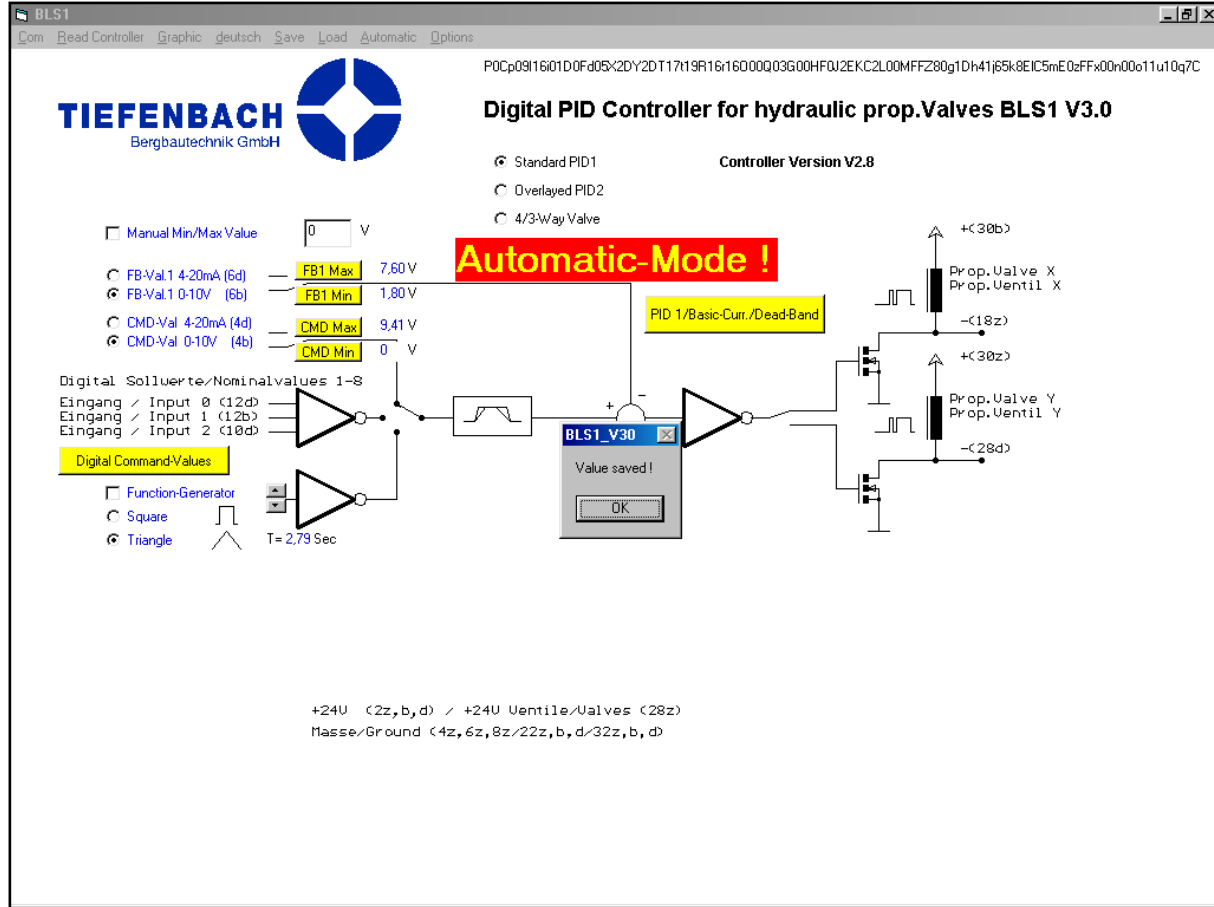

Fig. 13
- You will see the message **Value Saved. (Fig. 13)**.